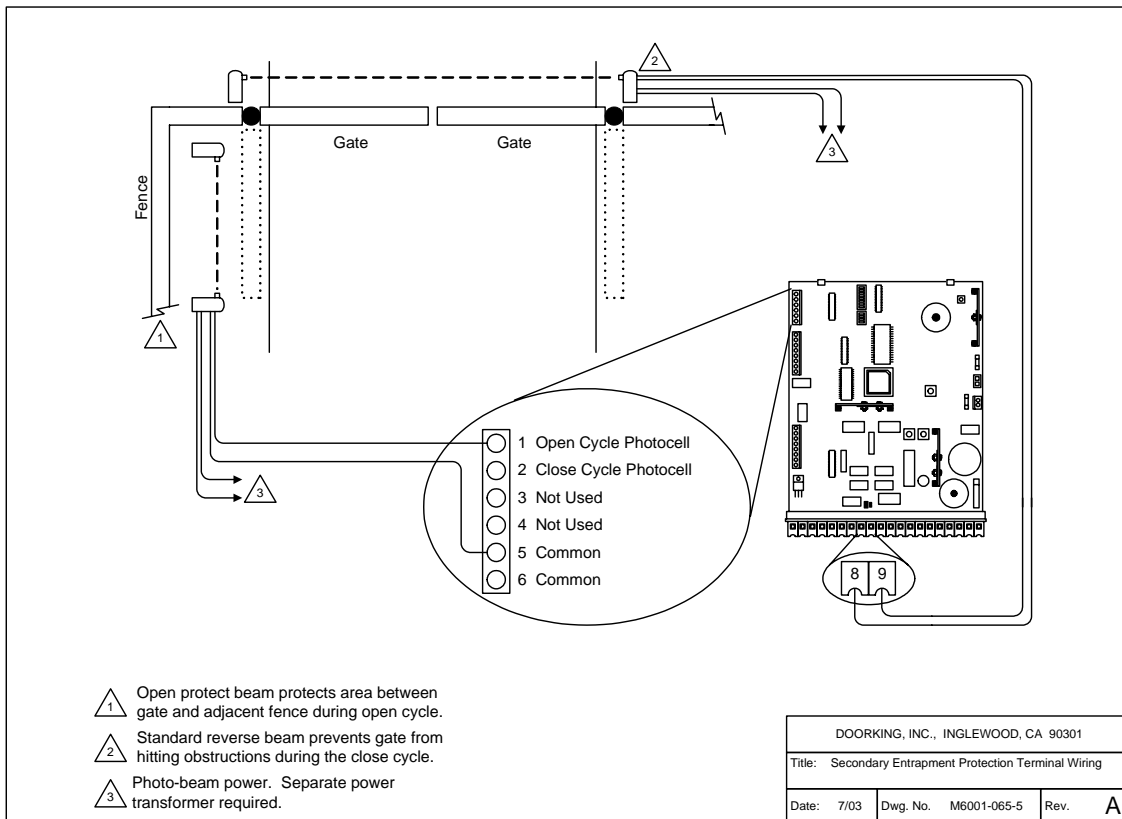

Figure 16
- Connect optional control devices to the main terminal strip as shown (fig. 16). Be sure that all electrical connections are made in accordance with local electrical codes. Use 18 AWG wire for all low voltage wiring, maximum distance 3000 feet. Use a low voltage surge suppresser, DoorKing P/N 1878-010 if low voltage wire runs exceed 1000 feet. All inputs to the terminal strip must be NORMALLY OPEN.